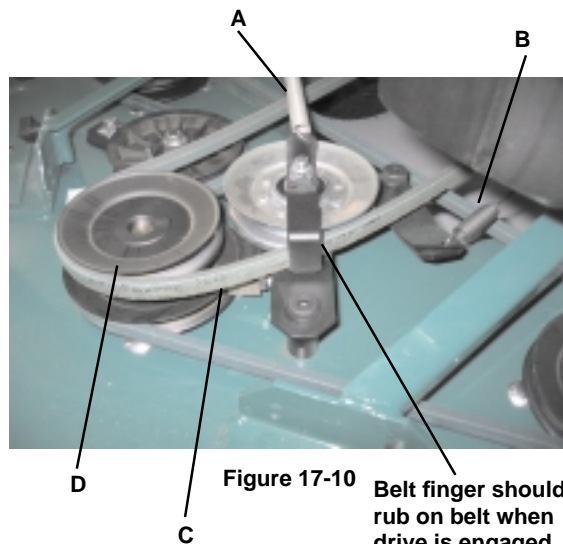
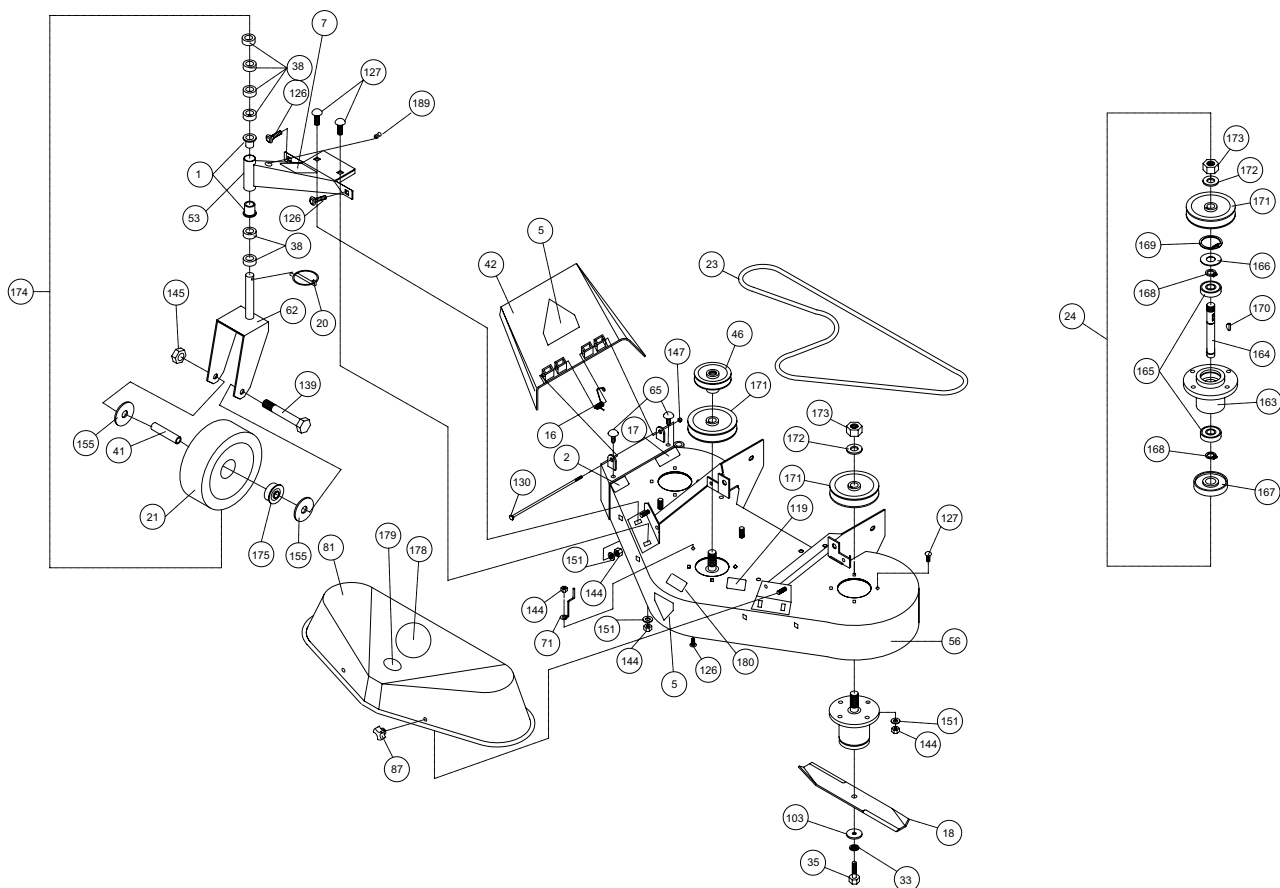

Figure 17-10
Figure 17-11
3. Remove the brake spring (A) and control cable spring (B) (see figure 17-10).
4. Remove the blade drive belt (C) from the drive pulley (D).
5. Using a 3/8" wrench and 5/32" allen wrench, remove the nuts from the #10 puck retaining bolts (see figure 17-11).
Note: When the blade drive lever is depressed, the brake puck should not rub on the center pulley, the belt should be under tension, and not rub on the belt finger (see figure 17-10).